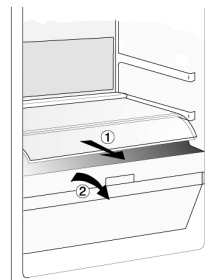

Fig. 2
2. Remove the compartment (See Fig. 2)